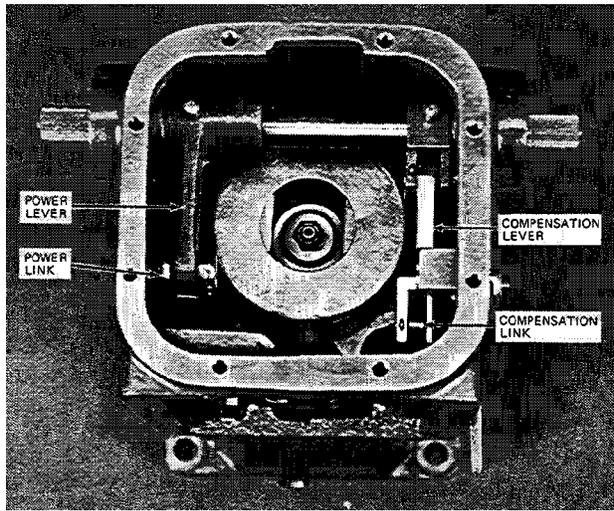

Figure 5-1. Top View of Case Assembly
6. Remove pins (232 and 233, Figure 6-2) connecting power lever (239) and compensation lever (241) to the power and compensation links of the controlet (see Figure 5-1). Use a bent wire or hook scribe to push the pins toward the center of case for removal.